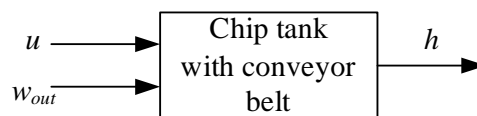

Figure 12.7:
2. Figure 12.7 shows the overall block diagram.